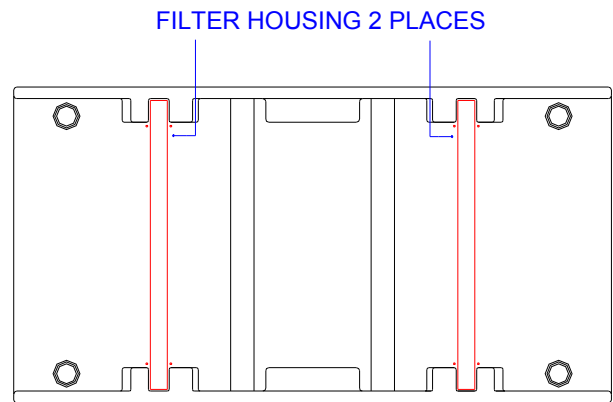

Figure 6
- b. Remove the cover to reveal the exchanger core & filter housings (Figure 6).